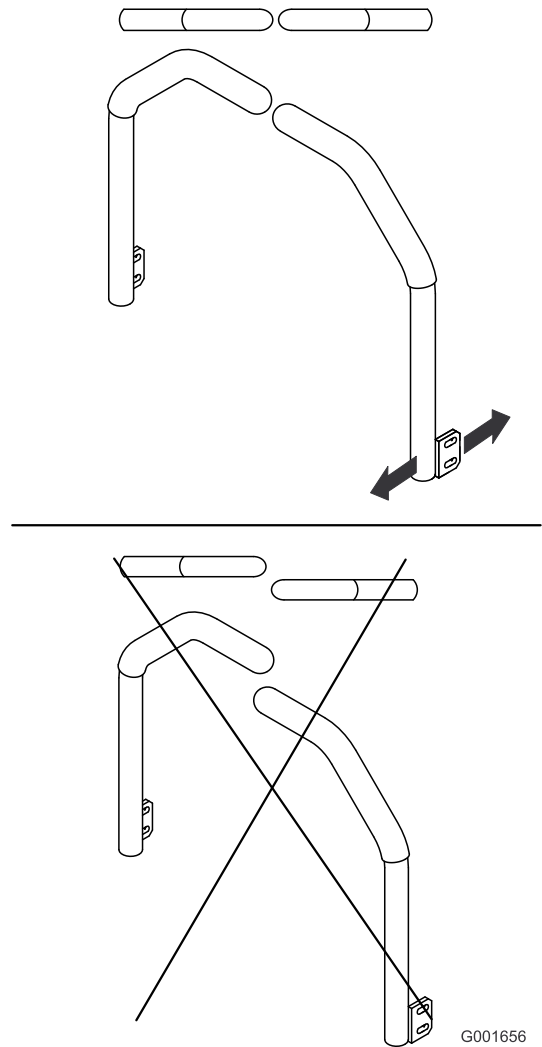

Figure 89
5. Adjust the control levers so that they line up and tighten the bolts, securing the levers to the posts (Figure 89).